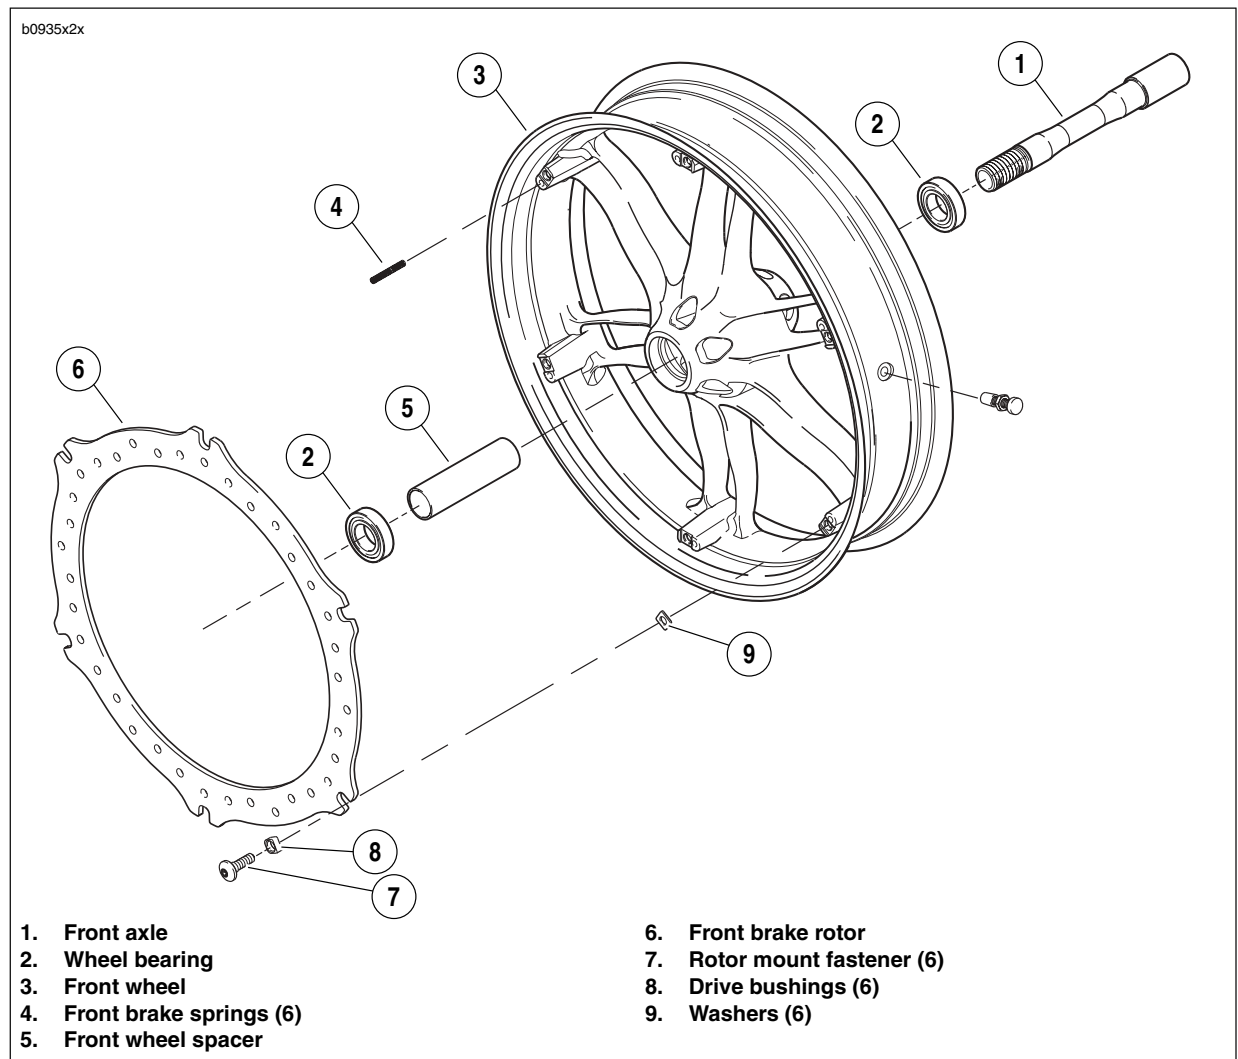

Figure 2-17. Front Wheel Assembly
1. See Figure 2-17. Remove and discard rotor mounting fasteners (7).
2. Remove and inspect brake rotor (6) for wear and warping. See 2.12 FRONT BRAKE CALIPER.
3. Remove drive bushings (8) and discard.
4. Remove washers (9) and discard.
5. Remove front brake springs (4) and discard.
1. See Figure 2-17. Install **new** springs (4).
2. Install **new** washers (9).
3. Install **new** drive bushings (8) into rotor.